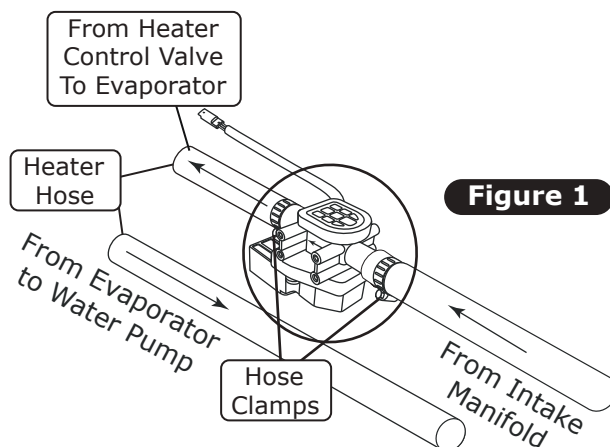

Figure 1
- Cut a 6 1/2" piece of heater hose and install it onto the heater control valve as shown in Photo 1, below. Note the valve direction, then connect the hose to the heater hardline closer to the driver side as shown in Photo 1, below. Secure with hose clamps (See Photo 1, below). **NOTE: The heater control valve is directional. Refer to Figure 1, below for correct installation.**